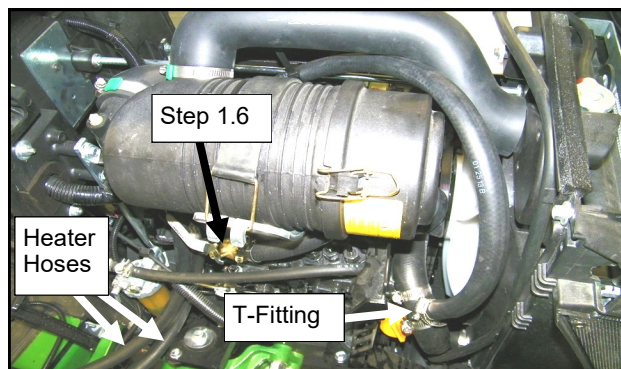

Fig. 1.5 (Route Hoses)
1.5 Per figure 1.5, run the hoses down the right side and toward the rear of the engine. Check hose routing making sure it is not kinked or rubbing against any sharp edges. Also make sure the hoses will not interfere with installing the engine side covers. Secure hoses as necessary with large wire ties provided.